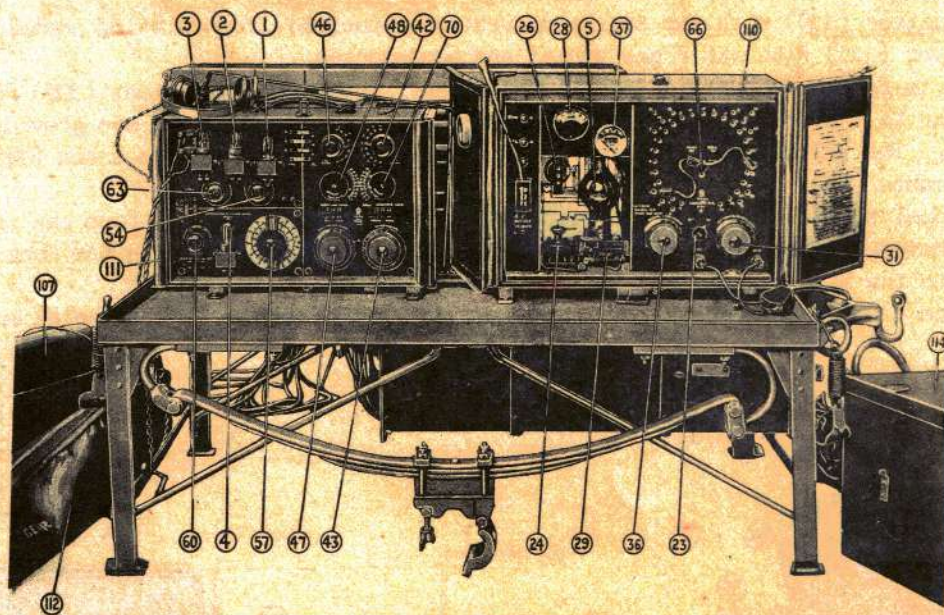

Fig 1.
Power Supply. Power is supplied by an engine (64) driven double purpose generator (3)(see figure 1.) supplying 1200 volts H. T. and 12 volts L. T. The engine is directly coupled to the generator and both are mounted on a bedplate and frame. The speed of the engine is 1760 revs. per minute automatically controlled by a governor.
H. T. Supply. Permanent leads are fitted to the transmitter for connections to the generator. A switch (23) completes the positive H. T. supply through the anode choke (33), variometer (36) and part of the aerial coil (35) to the anode of the valve (5). A magnetic key (76) is employed for normal working so that the H. T. circuit is entirely confined to the transmitter and generator. A smoothing condenser (25) of 0.5 mfd. is connected across the supply.